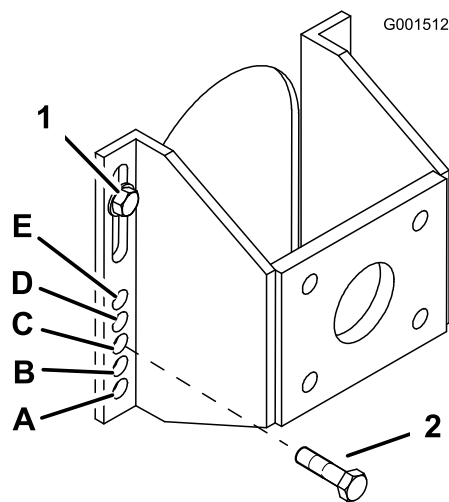

Figure 20
5. Loosen, but do not remove, the 2 top axle bolts (Figure 20).
6. Remove the 2 lower axle bolts (Figure 20).
7. Raise or lower the mounting bracket so that you can install the 2 axle adjustment bolts in the desired hole location (Figure 20).